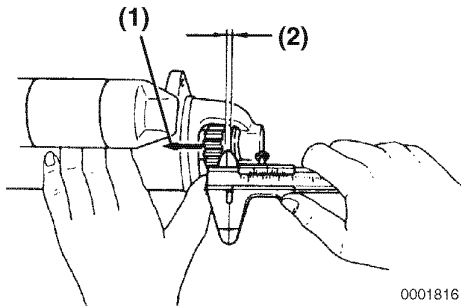

Figure 10-2
1. When the pinion is at the projected position, measure the gap (**Figure 10-2, (2)**) between pinion and pinion stop. This measurement should be made with the pinion pressed back lightly (**Figure 10-2, (1)**) to take up any play in engagement linkage. See *Specifications on page 10-4*.
2. If the measured dimension (**Figure 10-2, (2)**) is not within specifications, adjust the dust covers to obtain the standard range. Dust covers (**Figure 10-3, (1)**) are available in 0.020 in. (0.5 mm) and 0.031 in. (0.8 mm) thicknesses.